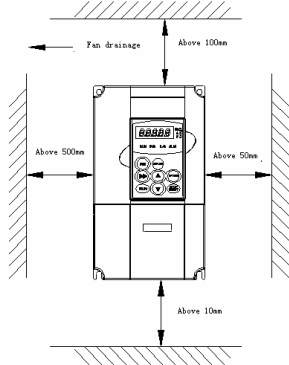

Figure 3-1 Installation Spacing Diagram
- (1) Install vertically in general condition.
- (2) The installation spacing and the min. distance is as shown in Figure 3-1.